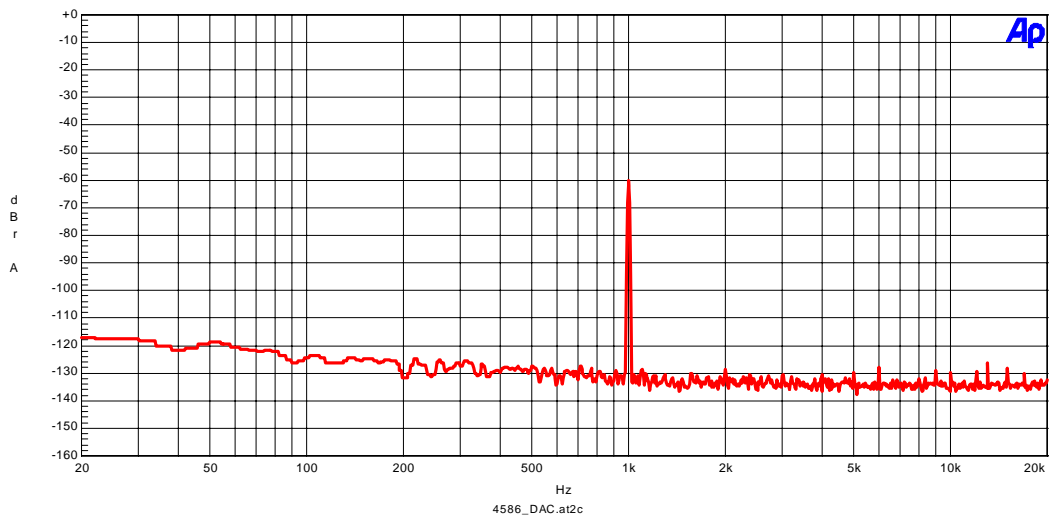

Figure 3-2. FFT (1kHz, -60dBFS input)
- Figure 3-2. FFT (1kHz, -60dBFS input)